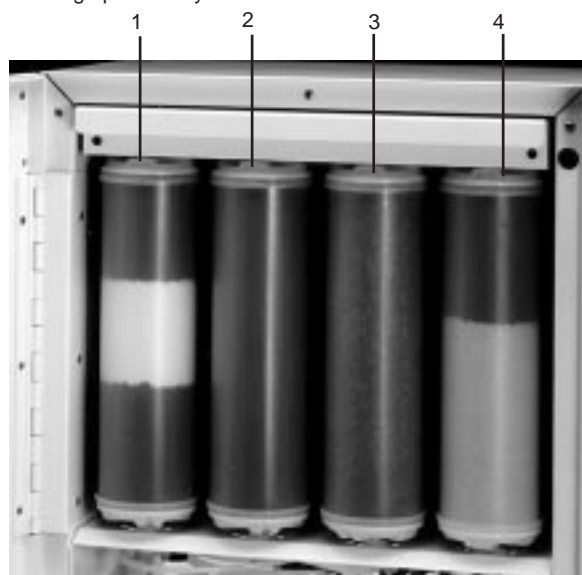

Figure 7 Proper Cartridge Order
2. The cartridges will be installed according to the charts below. Position 1 is the farthest left, position 2 the next one to the right, position 3 the next one to the right and position 4 farthest right. (See Figure 7). Proceed to step 3.